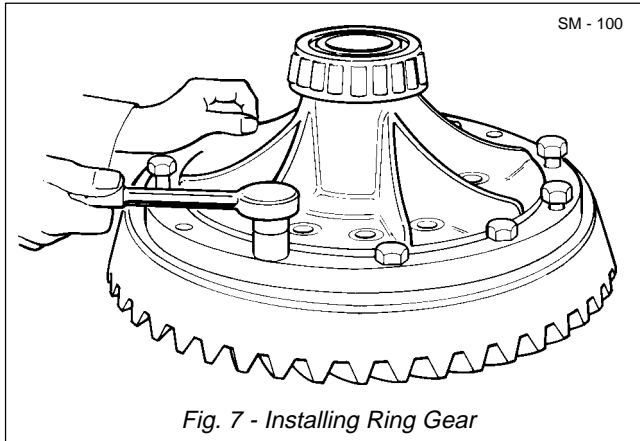

Fig. 7 - Installing Ring Gear
2. Install bolts (32), spacers (43), if used, and nuts (30) and tighten to 700 Nm (515 lbf ft) torque. Refer to Fig. 7.